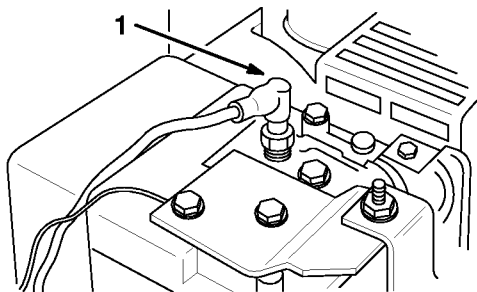

Figure 19
2. Pull wire off spark plug (Fig. 19).